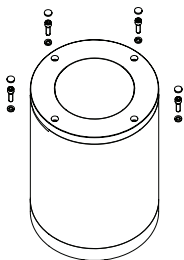

FIG.14
1. Loosen the fixture screw and gasket (**FIG.13**), remove the panel assembly (**FIG.14**).